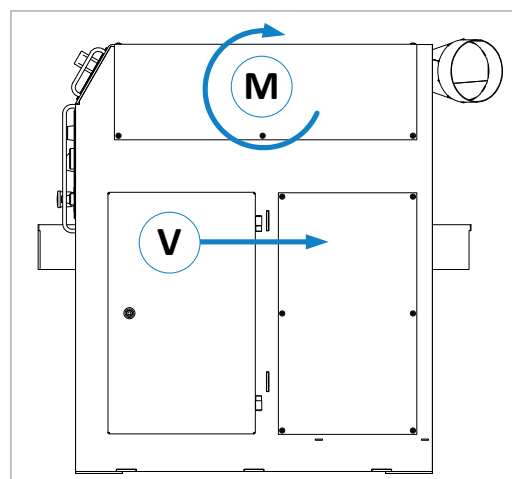

Figure 18: Direction of rotation and feed direction
**Note:** Also check the correct direction of rotation of the cutter block (M) and the running direction of the feed (V), see arrow directions in ⇒ Figure 18.